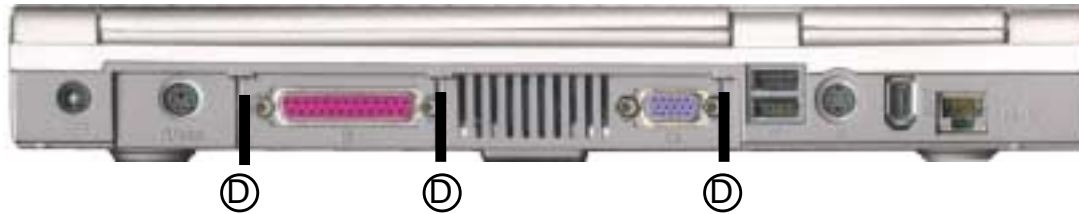

figure 3-17
4. On the back of the computer just above the ports, remove screws (D) (figure 3-17).